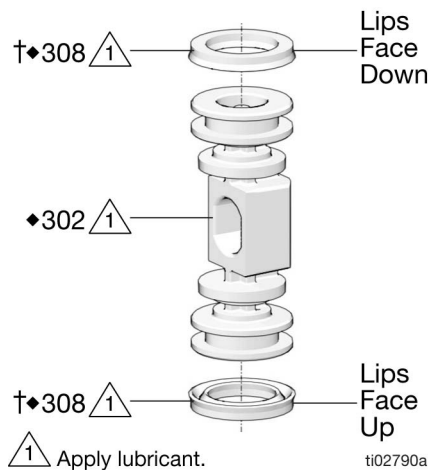

FIG. 16. Pneumatic Valve U-cup Installation
2. Lubricate the u-cups (308†♦) and install on the piston (302♦) with lips facing toward the center of the piston (FIG. 16).